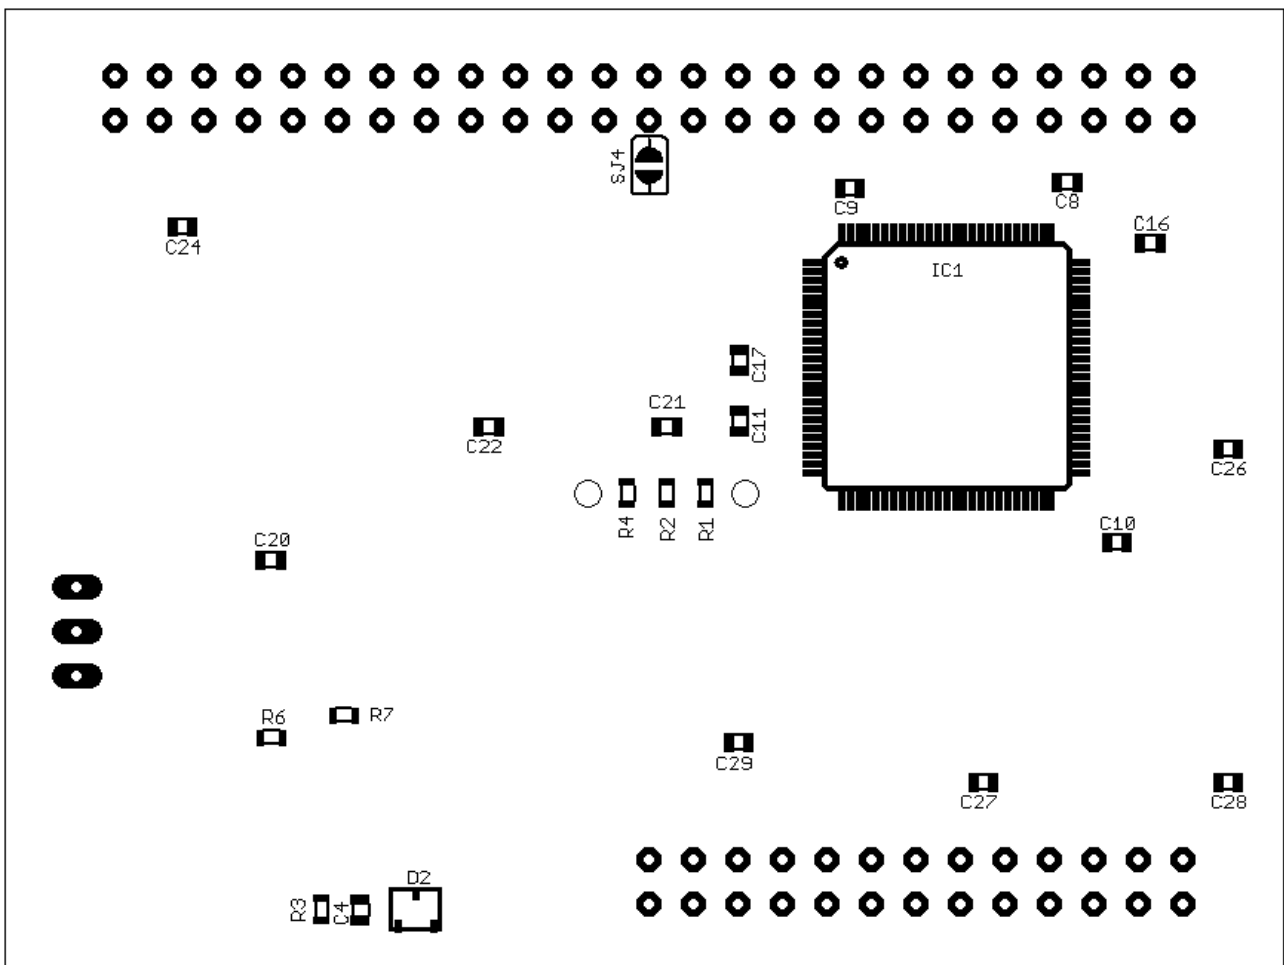

Figure 2: Bottom View of the ACSI-SCSI Adapter with partial Mounting of Components.
3. By the TermPower line of the SCSI connector. Using this possibility it is required, that the SCSI device is configured in a way, that the terminator power is driven by this device. To use this feature it is also required, that the jumper SJ4 a the bottom side of the printed circuit board is closed, see Figure 2.